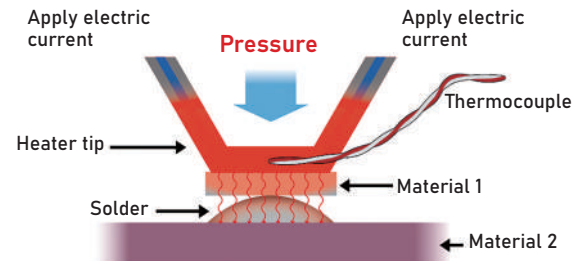

Fig.1 Model of joining by the pulse heat
1. Press the heater tip/heater tool (Fig. 1) against the target work to pressurize.